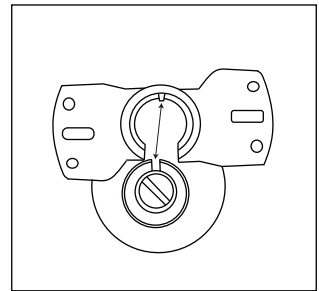

Figure 1
1. Insert the downrod ball head into the groove of the mounting bracket. (Figure 1)